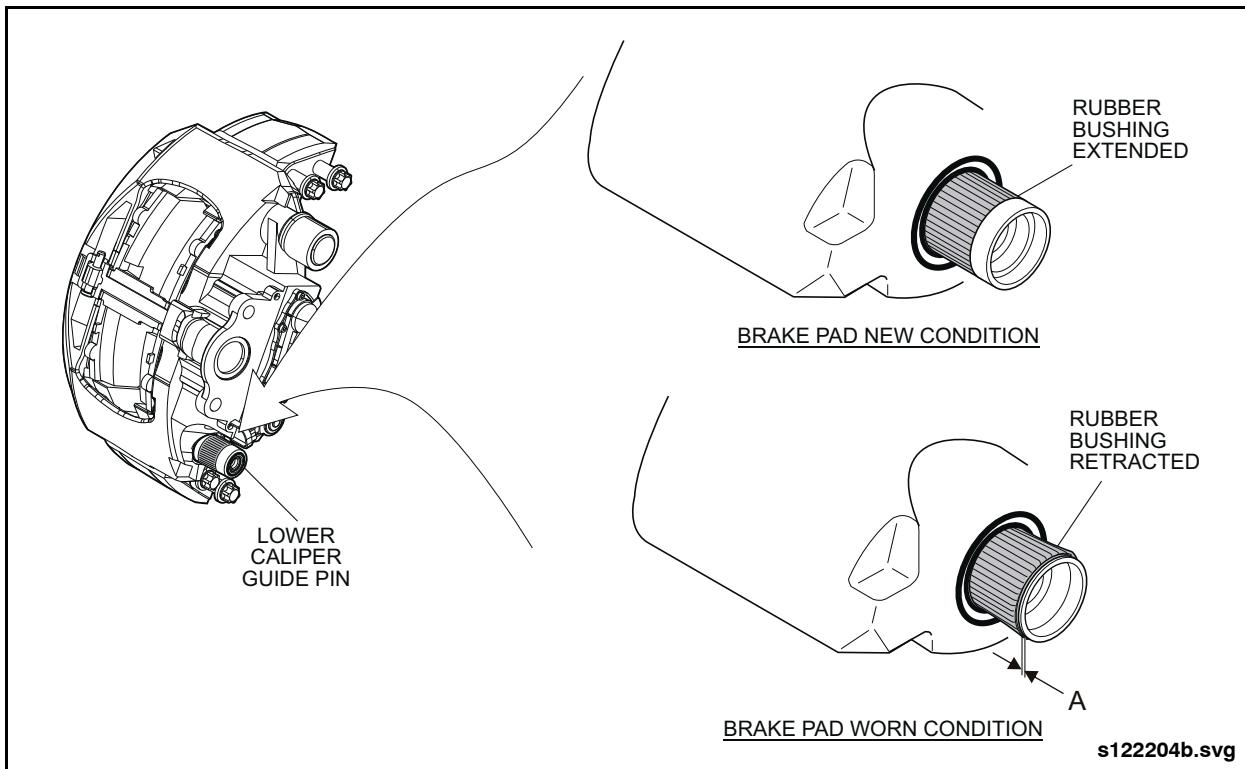

Fig. 1-44: Brake Pad Wear Inspection
2. Inspect the amount of deformation on the bellows area of the rubber bushing. A fully extended bellows indicates a new brake pad condition. A retracted and bulged bellows indicates a worn brake pad condition. See "Fig. 1-44: Brake Pad Wear Inspection" on page 54.